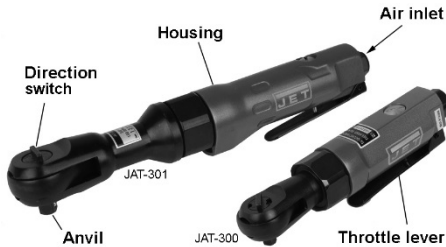

Figure 1
1. Remove protective cap from air inlet (Figure 1). If an in-line oiler is not being used, add 4 or 5 drops of air tool oil (not included) in to the air inlet.